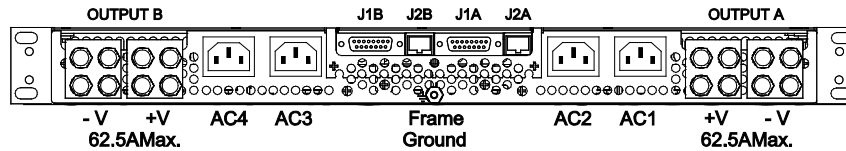

Figure 9a – Model TAUQR1U4C with IEC Connectors
15.3 Dual Bus Power Shelves – Rear views of the dual bus types are shown in figures 9a and 9b below.